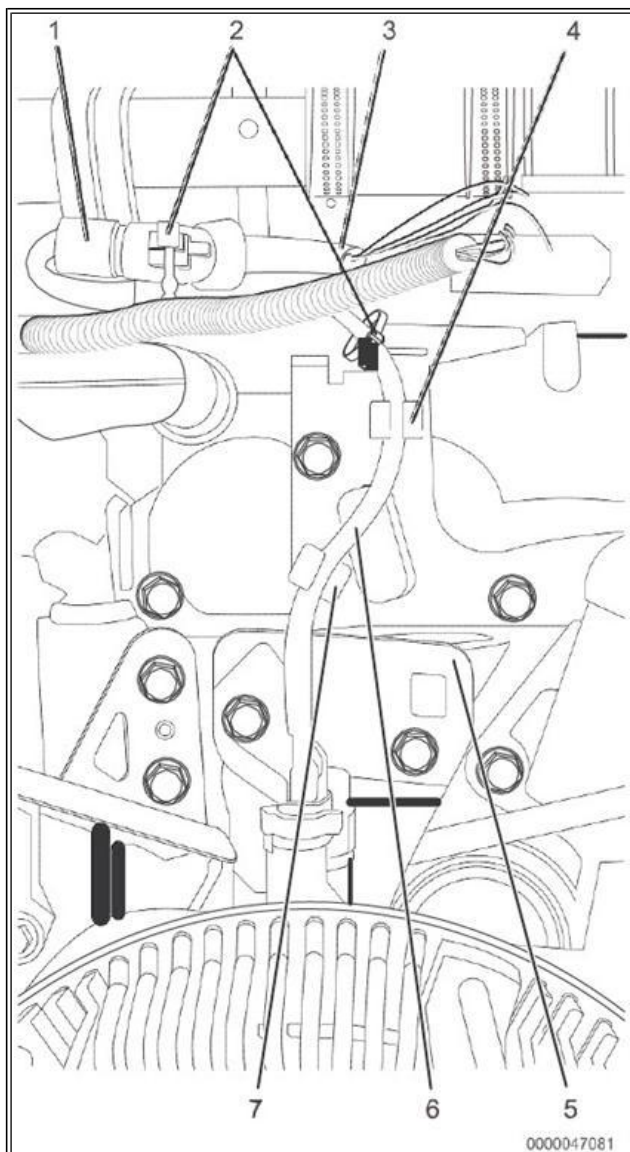

Figure 14 - Fan Clutch Harness
5. Remove two tie straps (*Figure 14, Item 2*) securing fan clutch harness (*Figure 14, Item 6*) to engine harness (*Figure 14, Item 3*) and fan clutch harness bracket (*Figure 14, Item 5*). Discard tie straps.
6. Remove harness from upper and lower push pins (*Figure 14, Items 4 and 7*).
a. If secured with two push pins, discard lower push pin (*Figure 14, Item 7*)
7. Inspect fan clutch harness (*Figure 14, Item 6a*) for signs of wear from contact with sharp or hard surfaces of harness bracket (*Figure 14, Item 5*).
8. Disconnect harness connector (*Figure 14, Item 1*).